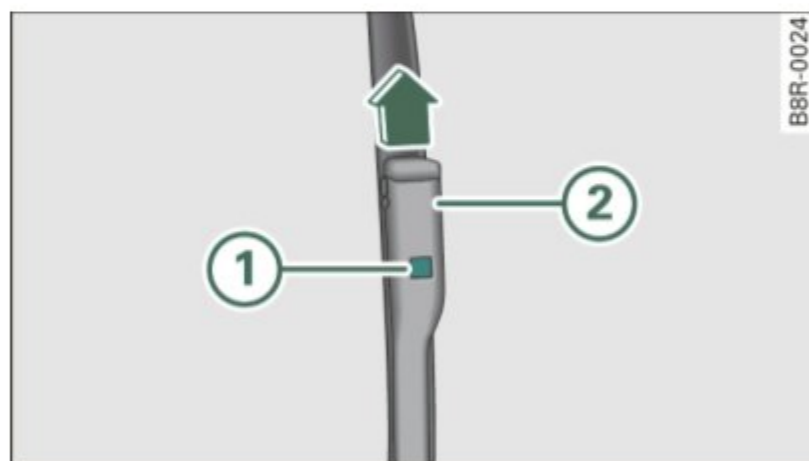

Fig. 63 Removing the wiper blade
- Press the locking knob ① ⇒ fig. 63 on the wiper blade. Hold the wiper blade firmly.